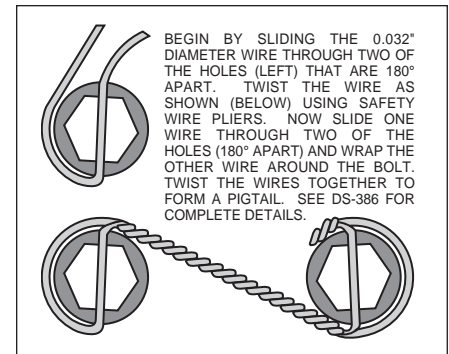

Figure 3. Safety Wire Diagram
•With the larger I.D. side of the rotor (7) facing away from the hat (8), bolt rotor (7) to hat (8) through the backside of the rotor using washers (9) and bolts (10). Torque bolts (8) in an alternating sequence to 120-144 **in-lb**. Safety wire bolts (10) using standard 0.032 inch diameter stainless steel safety wire as shown in Figure 3. Please refer to Wilwood's data sheet DS-386 (available at www.wilwood.com/pdf/ds386.pdf) for complete safety wire installation instructions. Slide the rotor/hat assembly onto the spindle. Install a couple of lug nuts (finger tighten) to keep the rotor/hat assembly in place while continuing with the installation.
•**NOTE:** Please reference the caution statement at the beginning of the assembly instructions. Install one shim (14) over each pre-installed stud (15) on the radial mount bracket (1). Slide the caliper (11) in place over the studs and rotors and install the washer (13) and lock nut (12) to hold the caliper in place. The caliper bleed screws should be pointing up. Snug the lock nuts (12) and check that the rotor (7) is centered in the caliper (11). Add or subtract .015" shims (6) as necessary between the spacer and the spindle to center the caliper (7).
•Remove the caliper quick-clip pad retainer from the caliper. Remove the protective material from the adhesive side of the anti-squeal shims (16) and place against the backing plate side of the brake pads (17) utilizing the contour of the backing plate as a guide. Secure material to backing plate by bending the four tabs over the edge of the backing plate. Slide the brake pads (17) with the shims into place. They should install easily without interference. Check that the outside radius of the brake pad is aligned with the outside diameter radius of the rotor face. Add or subtract shims (14) between the caliper and mount bracket to gain the proper alignment. Reinstall the quick-clip pad retainer.
•Once all clearances have been checked, remove the wheel, caliper, hat, and rotor from the spindle and hub. Secure the caliper mounting bracket (1) to the spindle using red *Loctite*® 271. Torque the bolts to 47 ft-lbs. Reinstall the hat and rotor assembly and again use several lug nuts to hold it in place. Lubricate caliper mounting studs and nuts with lightweight oil, reinstall the caliper, torque the caliper nuts (12) to 30-35 ft-lb.